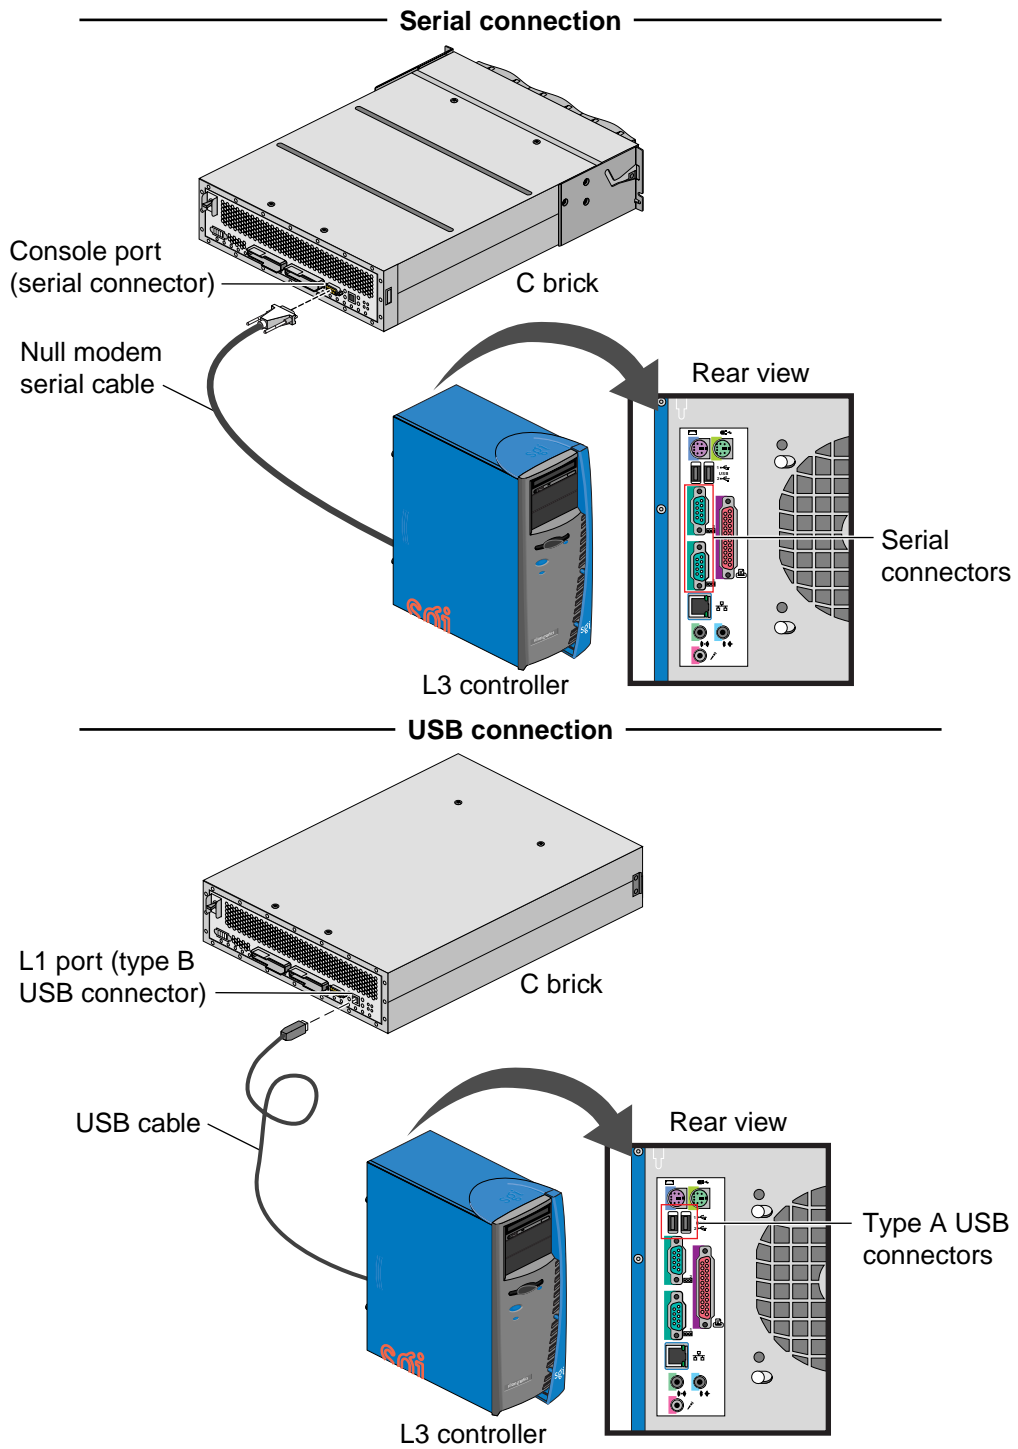

Figure 1-6 SGI Origin 3200-to-L3 Physical Connections (Serial and USB)
3. Connect a null modem serial cable from the L3 serial connector to the console port at the rear of the C brick (refer to Figure 1-6).
1. Connect a USB cable from the workstation to the L1 port (USB port) on the rear of the C brick (refer to Figure 1-6).
Note: Figure 1-6 shows serial and USB connections to a Silicon Graphics 230 visual workstation-based L3 controller solution. The connections are identical for Customer Service laptop-based L3 controller solutions; use the same cables to connect to the serial or USB port on the laptop.